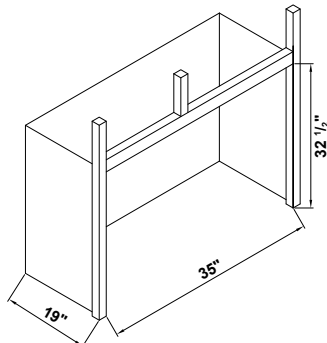
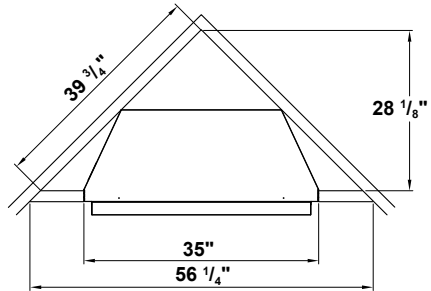

Figure 9 - Rough Opening for Wall Installation
Figure 10 - Rough Opening for Corner Installation
1. Frame in rough opening. Use dimensions shown in Figure 8 for the rough opening. If installing in a corner, use dimensions shown in Figure 10 (page 13) for the rough opening. The height is 32 1/2", which is the same as the wall opening above (see Figure 9).